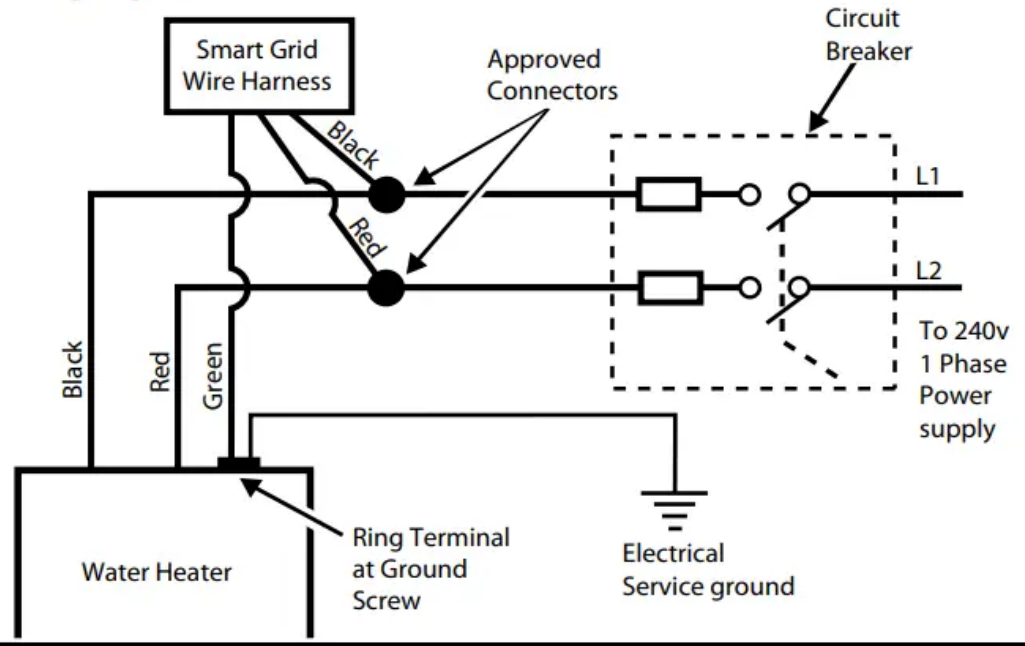

Figure 8A
2. Remove the junction box cover that is secured by one screw (Figure 8A). Place the cover and screw aside and view the wiring diagram. Locate the four power wires inside the junction box (there will be TWO red wires and TWO black wires).
3. Connect the electrical supply to the water heater in accordance with the local utility requirements and codes. A standard 1/2-inch opening has been made in the junction box for the conduit connections (Figure 8A). NOTE: Use only 10 gauge solid copper wire for the electrical connections and an appropriate size double pole circuit breaker.
9. Do not remove the Smart Grid cover from the Smart Grid connector (Figure 8A) unless this feature is being used (see the "Smart Grid Technology" section this manual).